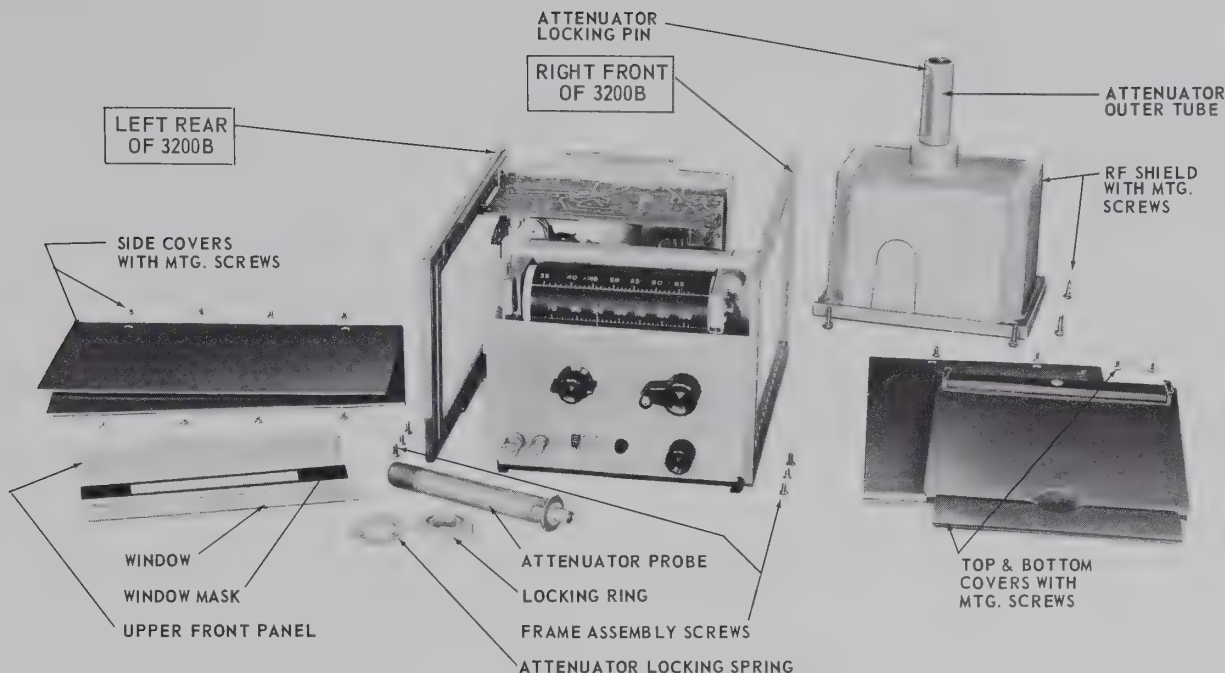

Fig. 5-5. Trouble Shooting and Repair Setup
5-28. TROUBLE SHOOTING AND REPAIR SETUP (FIG. 5-5).
e. Thread the dial cord around the small left side pulley, the angle pulley, etc. as shown in Fig. 5-5.